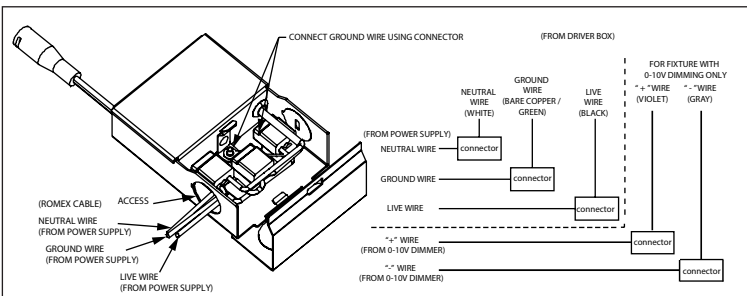

Figure 2 / Figura 2 / Schéma 2
- Connect black wire to live wire, white wire to neutral wire, and green wire with ground (as shown) and secure using wago connector. Close the cover of the box. (Figure 2)
- For 0-10V dimming**, use Wirenut to connect violet dimmer wire from fixture (+) to positive (+) wire from dimmer and gray dimmer wire (-) from fixture to negative (-) wire from dimmer. **See dimmer electrical schematic for more info.** Close the cover of the box. (Figure 2)